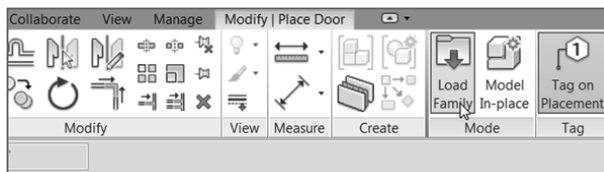

FIGURE 2.70: Click Load Family on the Mode panel.
2. On the Modify | Place Door tab, click the Load Family button, as shown in Figure 2.70.